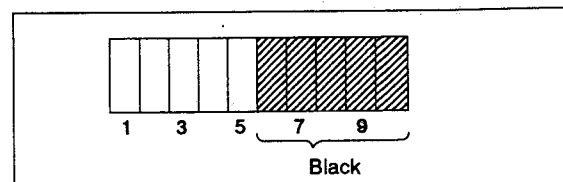

Fig. 41
2. Adjust R3461 (RGB sub bright) to achieve waveform as shown in Fig. 41